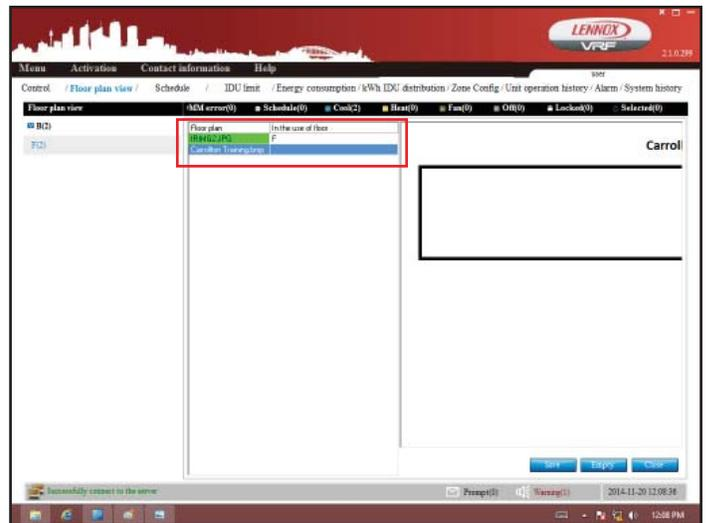

Figure 19. Select File
3. Tap to select the desired floor distribution plan image file. See figure 19.